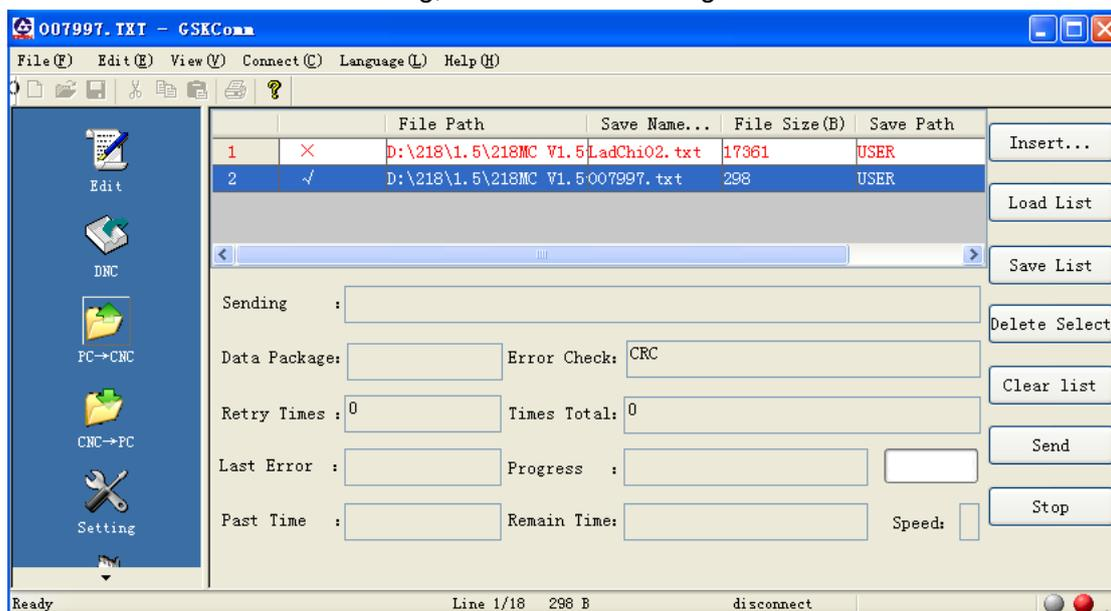

Fig. 11-2-2-7
6. After sending the file/files, "Sent" is displayed in the dialog, which is shown in Fig. 11-2-2-8.